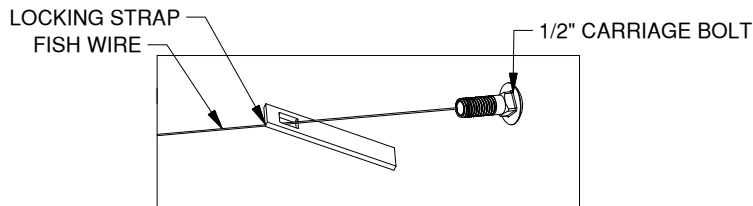

Figure B2
- 3. Prepare hardware.** Thread the locking strap on the fish wire and attach the coil end of the fish wire to the carriage bolt, as shown in Figure B2. To keep the hardware from getting hung up inside the frame, the locking strap and the bolt need to go through the frame separated, as shown, and not with the bolt through the square hole in the strap.